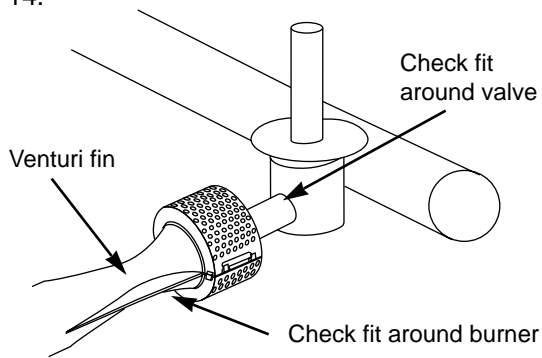

Figure 14
g).i) Reinstall the Spider Stopper Guards. Slightly rotate the Spider Stopper Guards so that the seams are in line with the Venturi fins. There should be no gaps in the seams or in the fit around the burners and valves. Figure 14.